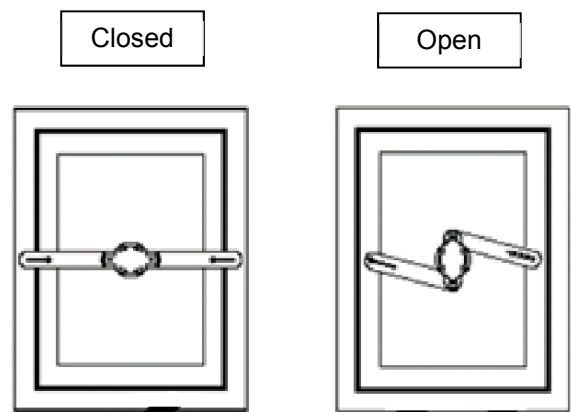

Figure 42
- ♦ Verify the functionality of the escape hatch's release mechanism prior to installation and before use. Please ensure that the hatch's arms are retracted when open and non-retracted when closed (Figure 42).